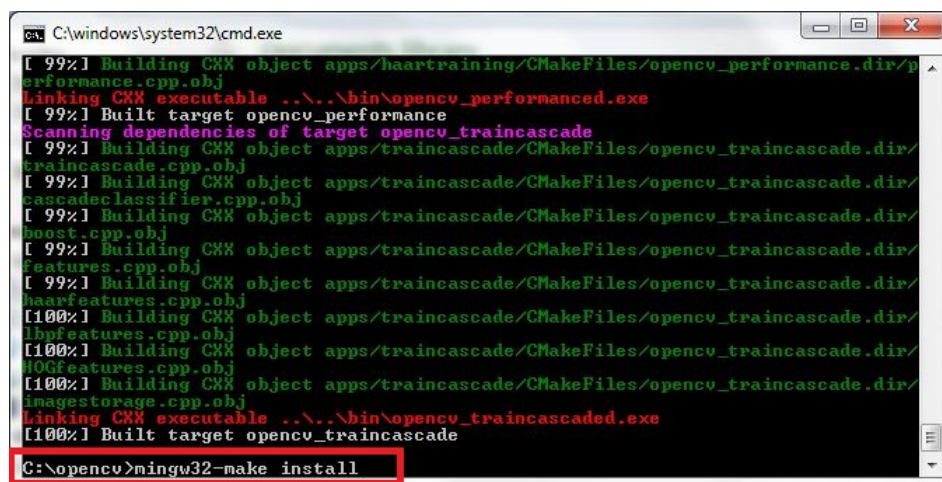

Figure 4-32. Installing the OpenCV Libraries
22. After the mingw32-make command has finished running, the built libraries must be installed. Run the command "mingw32-make install" as shown in Figure 4-32.